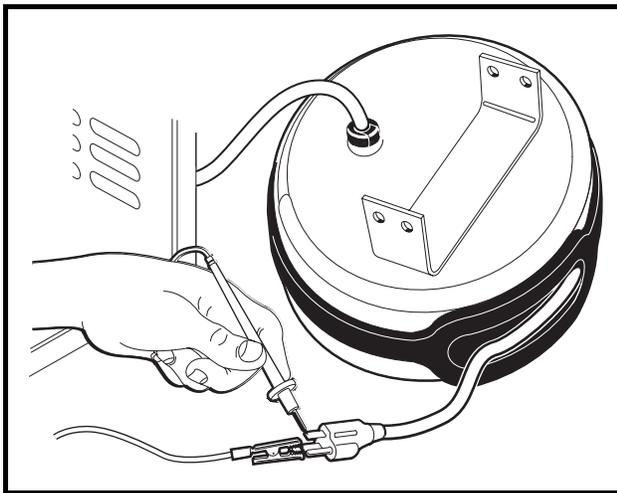

Figure 4-8 AC Circuit Continuity Test
- 5.4. With relay bypassed, there should be continuity across the AC cord blades (**Figure 4-8, Page 4-12**).